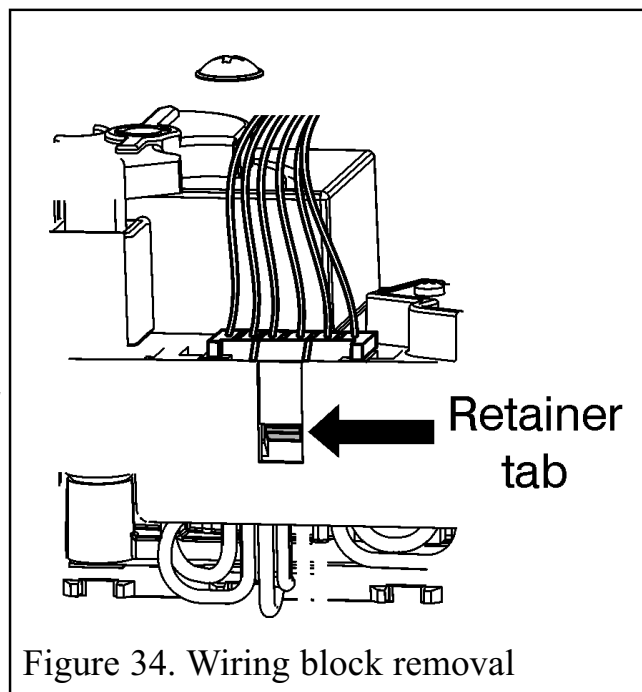

Figure 34. Wiring block removal
8. Remove the wiring block from the front of the valve. To do this press the retainer tab on the base of the valve (See figure 34) whilst gently pulling on the leads.